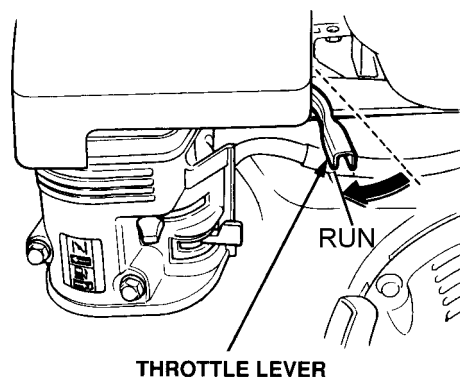

Figure 19. Throttle Lever (Run)
- To begin compacting, place the throttle lever (Figure 19) in the "RUN" position.